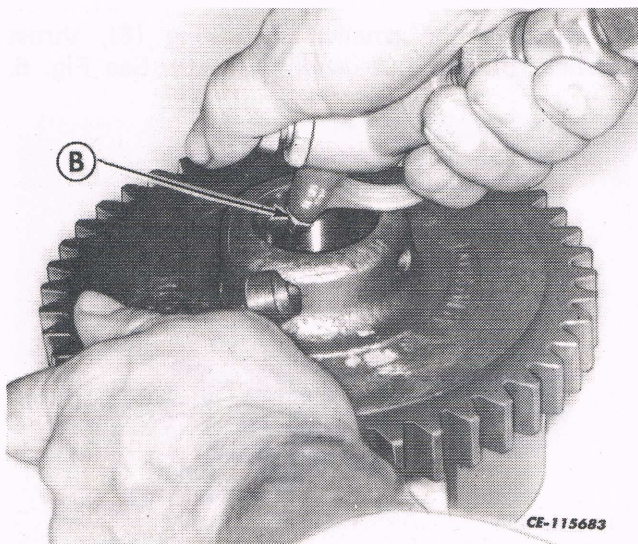

Fig. 7
4. There is a hole (B) in the bore of the clutch cup gear (12). Insert an air hose in this hole and force the piston (11) out. See Figs. 7 and 8.